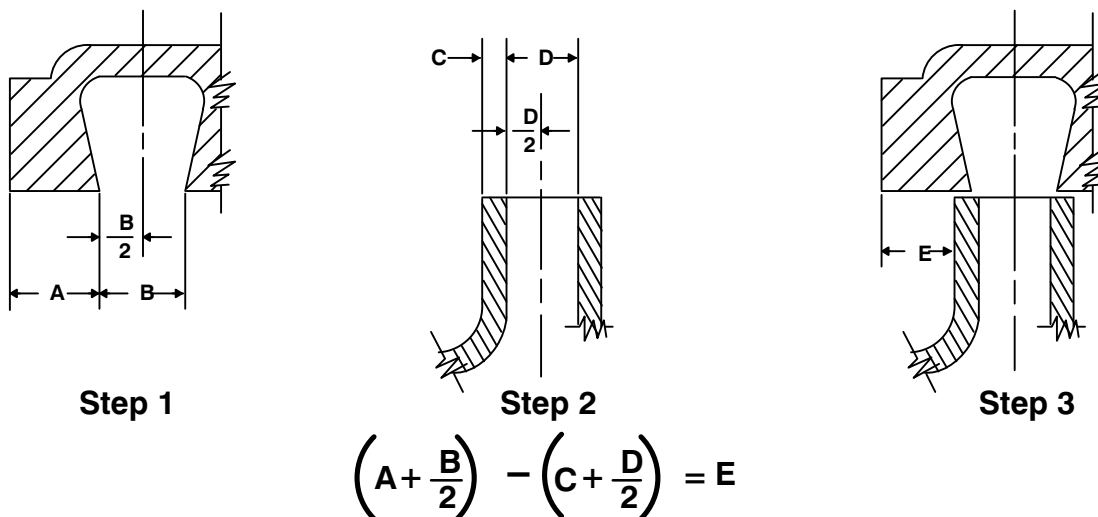

Figure 3. Centering Impeller Within Vane Plate Scroll
To verify the impeller positioning, measure the vane plate and impeller as shown in Figure 3. Use these measurements to calculate the required impeller location (dimension E). Add or remove impeller adjusting shims (11) until dimension E is obtained.